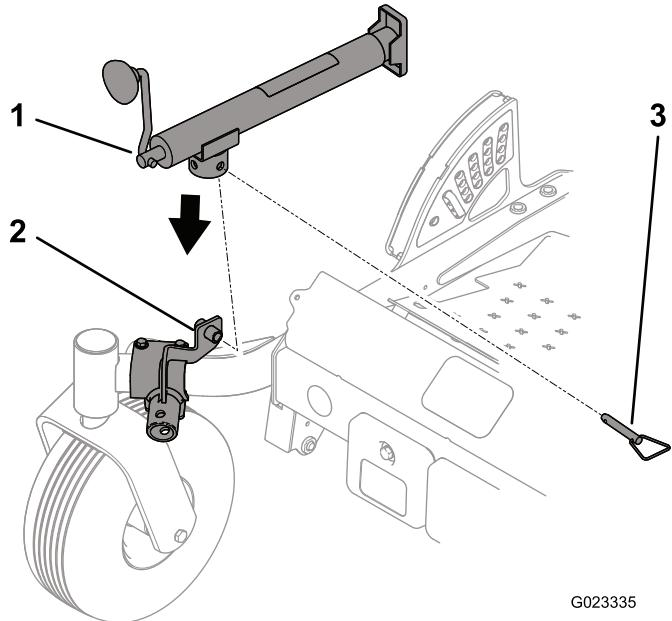

Figure 3
- Align the holes in the jack tube with the hole in the storage tube on top of the jack mount (Figure 3).
- Secure jack to the storage tube with the jack pin (Figure 3).